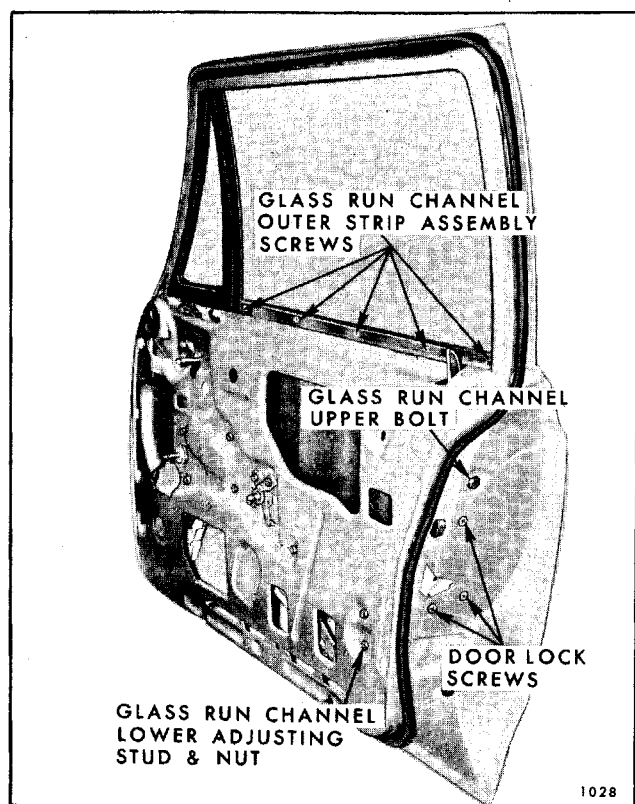

Fig. 7-97—Door Hardware Attachments - "B" Closed Styles
3. Remove glass run channel upper attaching bolt (at belt) and lower adjusting stud nut (Fig. 7-97).